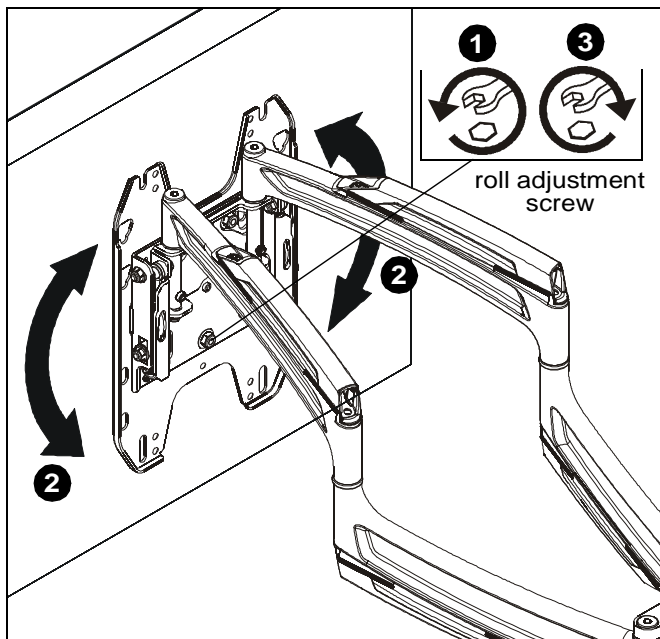

Figure 31
1. Loosen roll tension adjustment screw on back of faceplate to decrease roll adjustment friction. (See Figure 31)
2. Adjust roll position of display as desired. (See Figure 31)
3. Tighten roll tension adjustment screw to desired friction level. (See Figure 31)